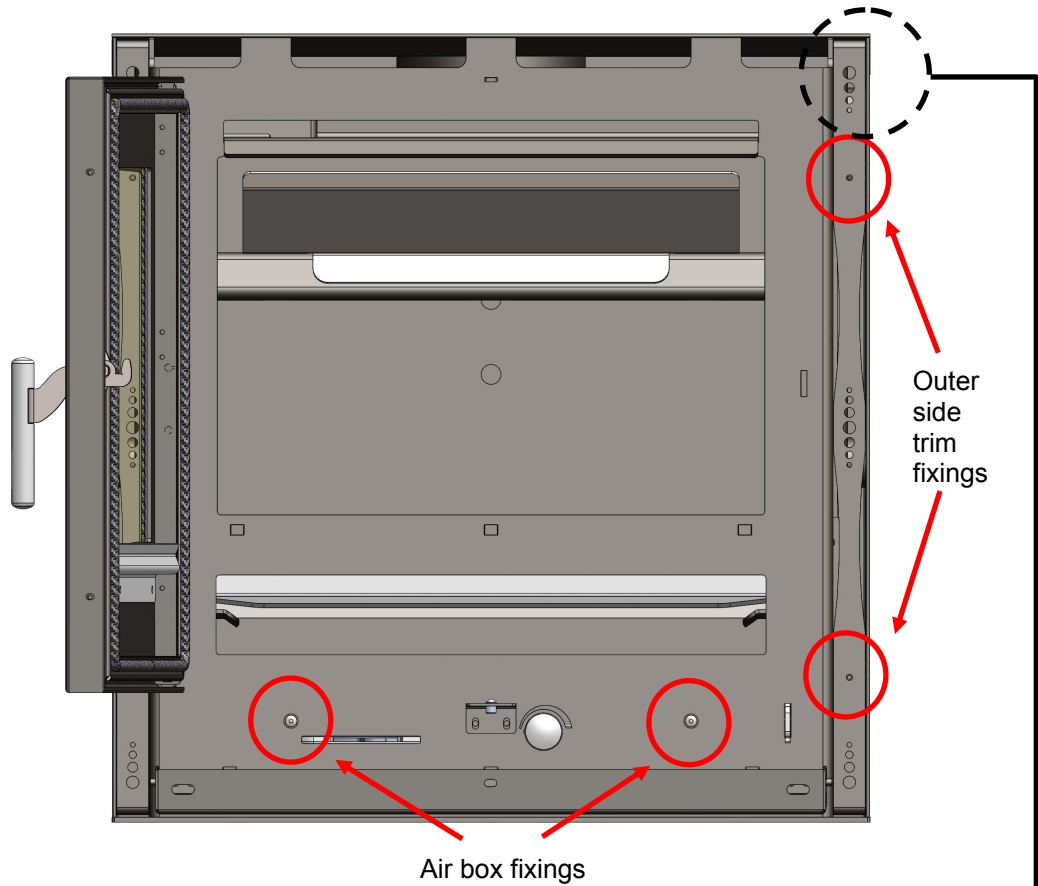

FIG. 8. Fixing locations (External With Door Open)
- Once the air box has been removed, this will expose the thermostat fixings (2 no.), remove using a 8mm spanner or socket (FIG. 8.)
- On the right of the thermostat assembly towards the front of the stove, remove the sensor wire cover plate again using an 8mm spanner, for the 2 no. screws (FIG. 8).
- Outside of the firebox, RIGHT hand side of the stove, remove the 2 no. fixings that hold the outer side spacer trim, using a Pozi screwdriver. (FIG. 8.)